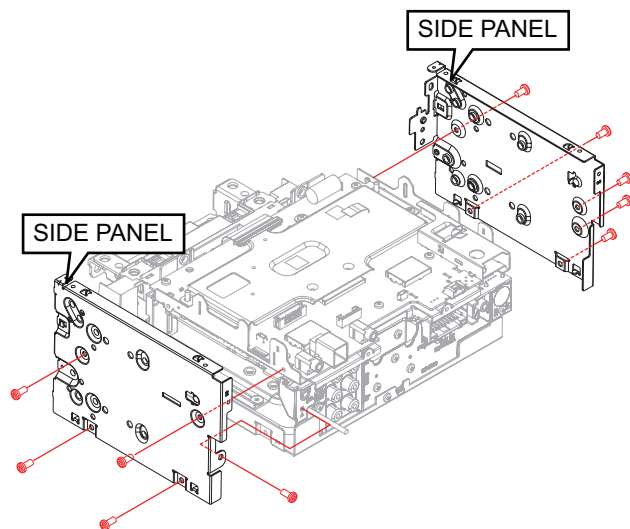

Fig.17
- (12) Remove the 10 screws, and remove the SIDE PANEL of the both side. (See Fig.17)